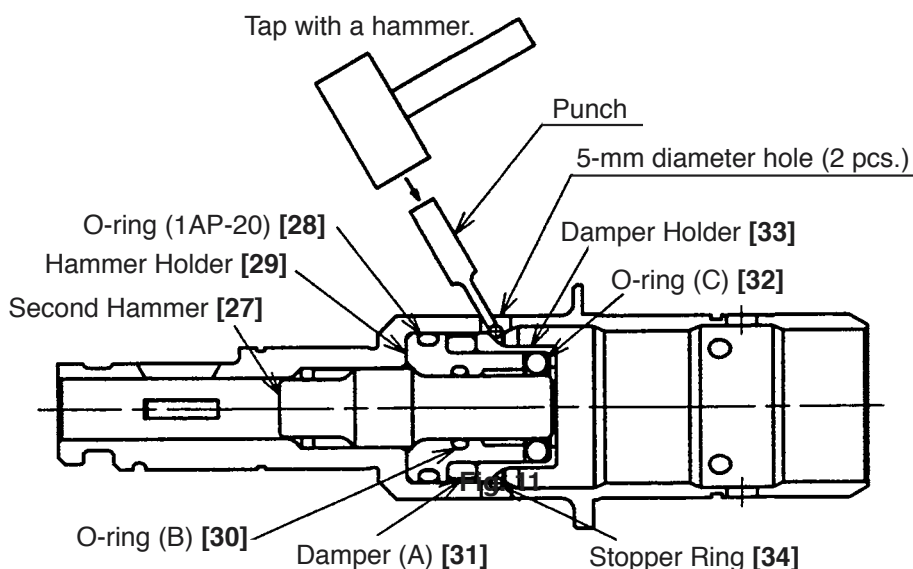

Fig. 11
(4) Disassembly of the cylinder and the second hammer
Remove the Stopper Ring [34] from the inside diameter portion of the Cylinder [22]. Then the Second Hammer [27], O-ring (1AP-20) [28], Hammer Holder [29], O-ring (B) [30], Damper (A) [31], O-ring (C) [32] and Damper Holder [33] can be removed from the Cylinder [22]. Remove the Stopper Ring [34] from the groove of the inside diameter portion of the Cylinder [22] by tapping the Stopper Ring [34] through the 5-mm diameter hole of the Cylinder [22] with a hammer and a punch as shown in Fig. 11. At reassembly, replace the Stopper Ring [34] with new one as the removed Stopper Ring [34] is deformed. To prevent idle hammering, also replace O-ring (C) [32] with new one at reassembly.